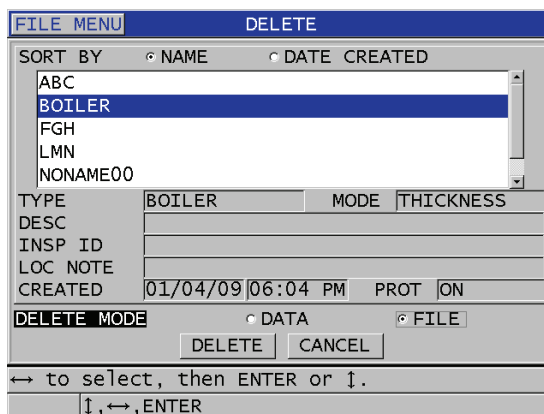

Figure 11-20 Deleting a file
3. In the **DELETE** screen (see Figure 11-20 on page 181):